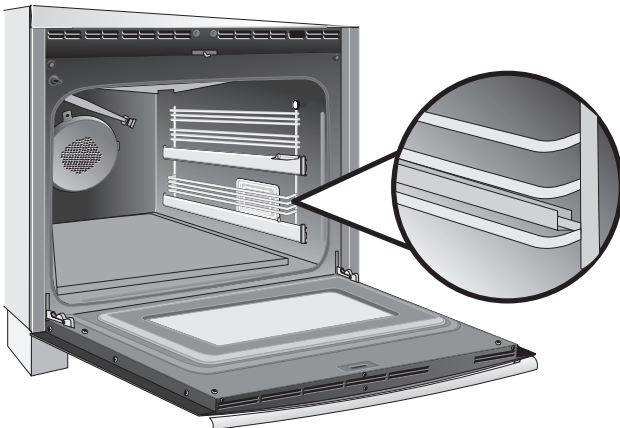

Figure 17: Ladder rack supports
2. Place the ladder racks into the support brackets located on the oven sides (see Figure 17).